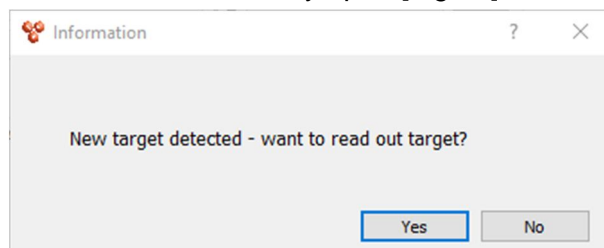

Fig. 3 Dialog window - Confirm reading of the electronics
If the TrigasDM electronics have been successfully detected by the software, the following dialog window will automatically open [Fig. 3 ]:
- Confirm with "Yes" . [Fig. 3 ]